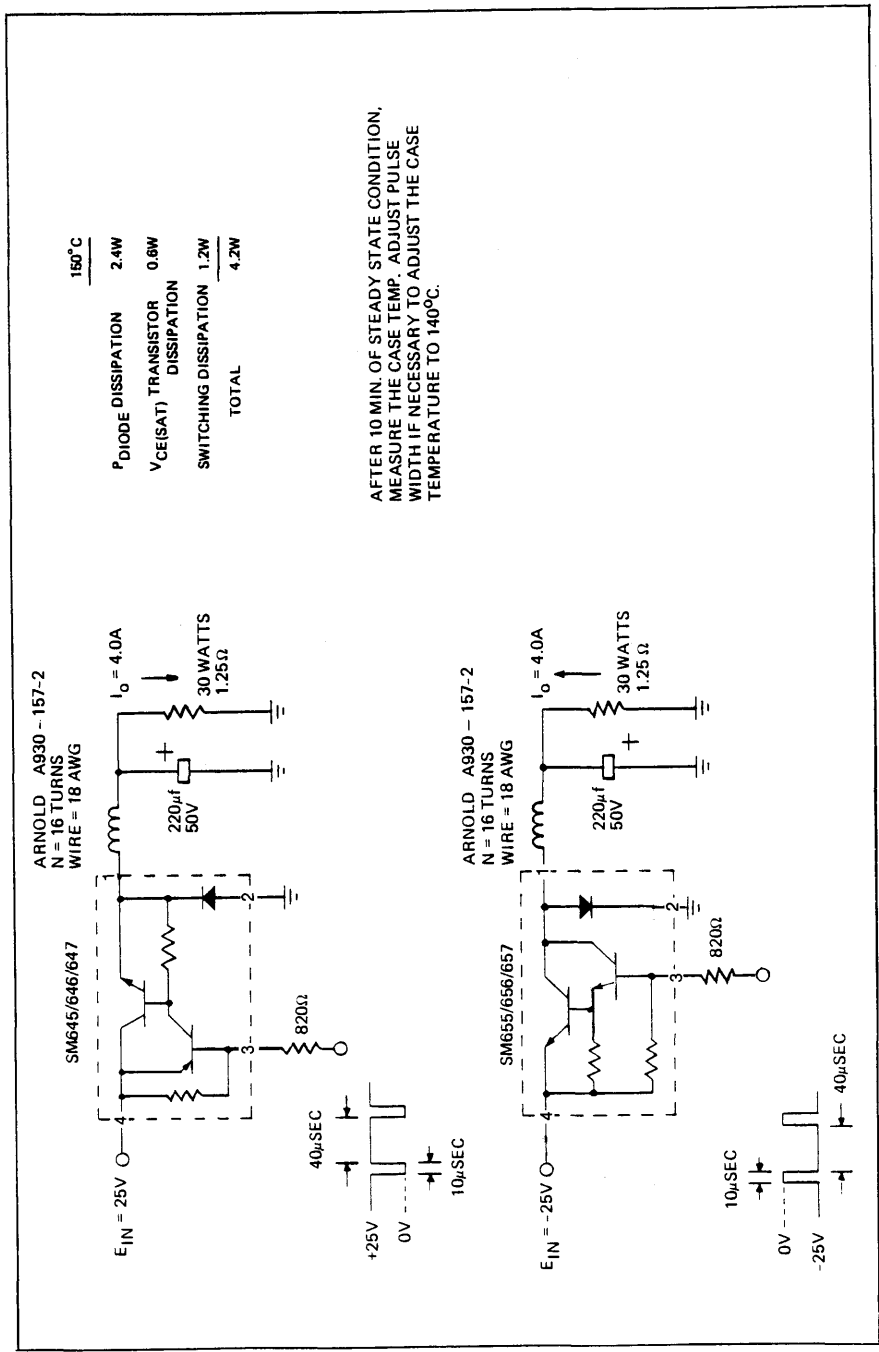

Figure 4. POWER BURN-IN CIRCUIT
$T_{\text{C}} = 25^{\circ}\text{C}$, see Figure 4
4.3.8 Power Stress – Each Hybrid device shall be burned-in using the circuit shown in Figure 4. The conditions are as follows:
Circuit and conditions as shown in Figure 4.